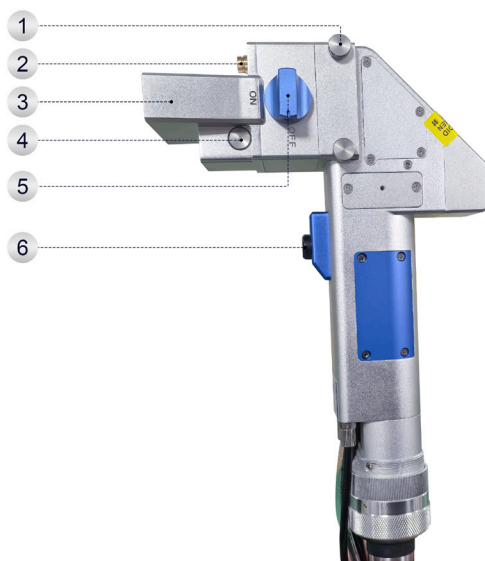

Figure 2 Cleaning head structure diagram
- 3.2. Loosen the screw on the protective lens drawer and carefully pull it out (refer to Figure 2, Item 1).